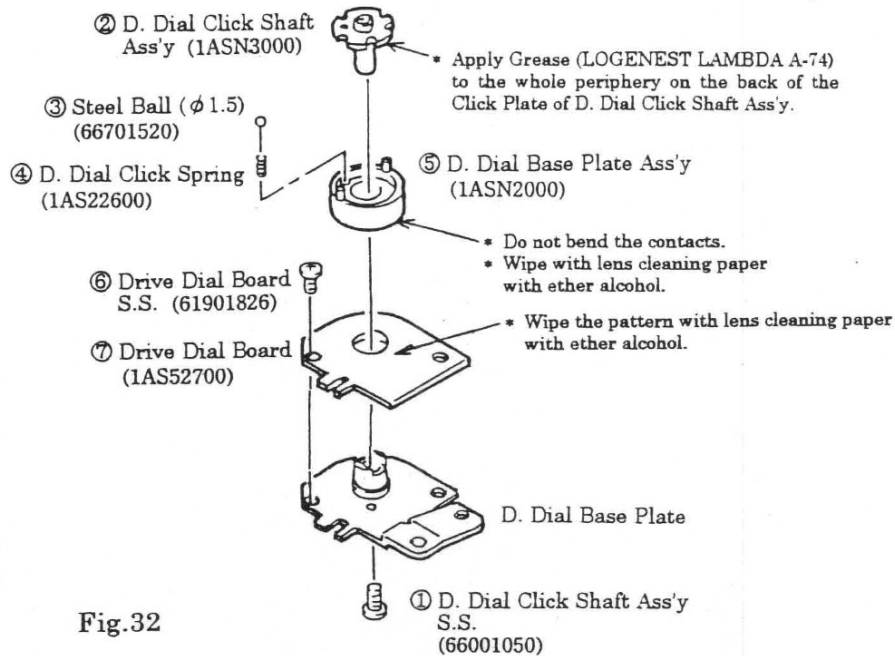

Fig.32
- 1) Remove parts in the numerical order of ① to ⑦ shown in Fig. 32.